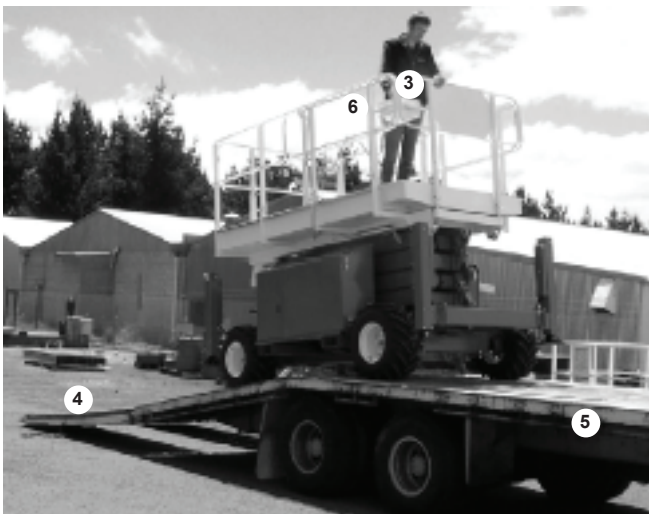

Figure 10.4
6. Use the joystick controller (3) to slowly drive the S2255RT / S2755RT straight onto the ramp (4) and trailer (5) (see figure 10.4).
7. When the S2255RT / S2755RT is in place on the trailer, push the emergency stop switch (6) in (off) at the platform control box.